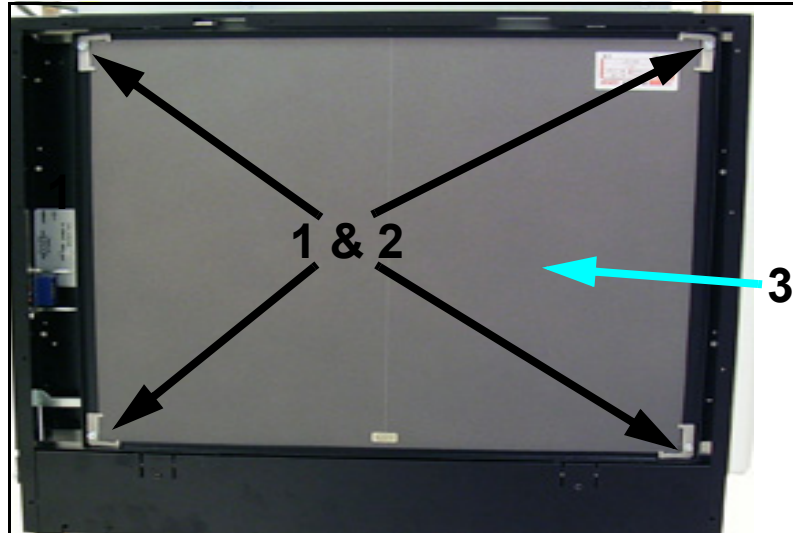

Figure 6-13. Grid
- 7 Unscrew the grid clamp screws (1 in Figure 6-13) and remove the clamps (2) and the grid (3).